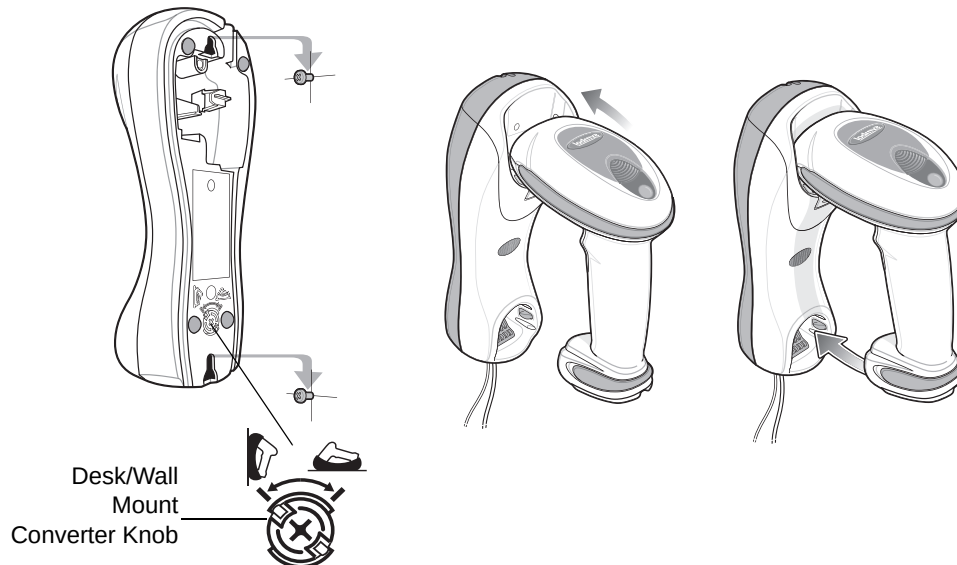

Figure 1-9 Vertical Mount - Inserting the Scanner in the Cradle
3. Ensure the desk/wall mount converter knob is in the position shown in Figure 1-9.